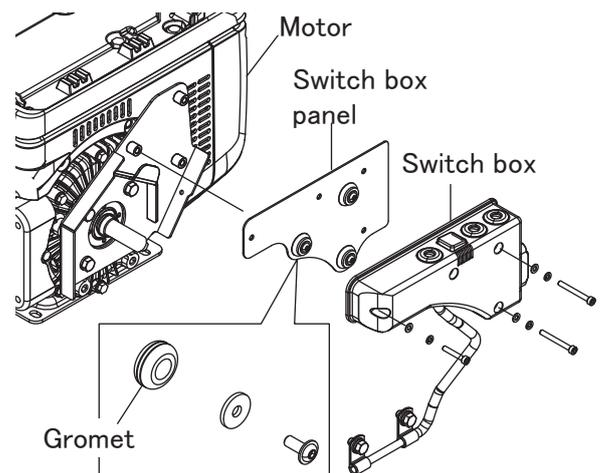

Fig.25
## 5. Checking the switch box (fig.25)
- c. Remove the switch box, then replace the grommet installed to switch box panel to new one (fig.25).